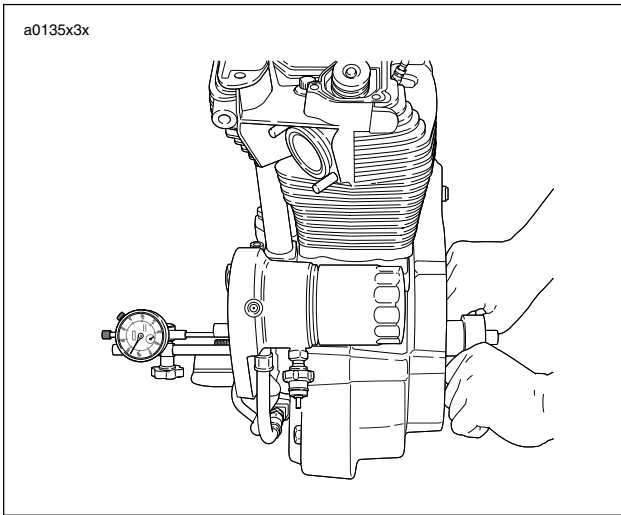

Figure 3-111. Checking Flywheel End Play
3. See Figure 3-111. Attach a dial indicator to gear side crankcase with indicator stem on end of gearshaft.